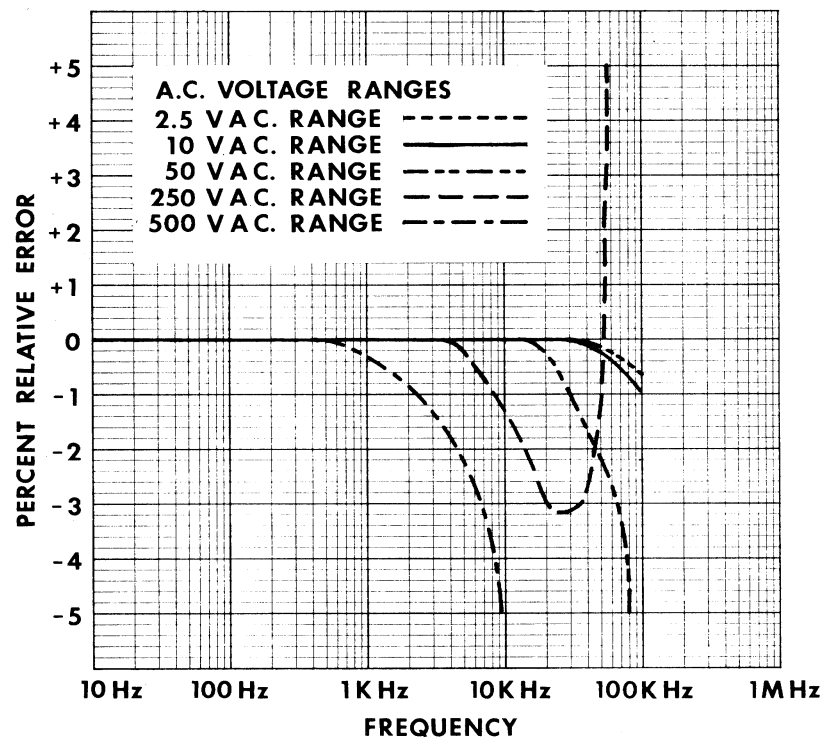

FIGURE 4-2. FREQUENCY RESPONSE, AC VOLTAGE RANGES
**4.10.1** The 270 responds to the average value of an AC waveform. The Dial is calibrated in terms of the rms value of a pure sine wave. If the waveform is nonsinusoidal, and depending upon its waveform, the reading may be either higher or lower than the true rms value of the measured voltage. Thus an error may be introduced if the 270 is used to measure a nonsinusoidal waveform. Also, accuracy is lessened at higher input frequencies (Figure 4-2).